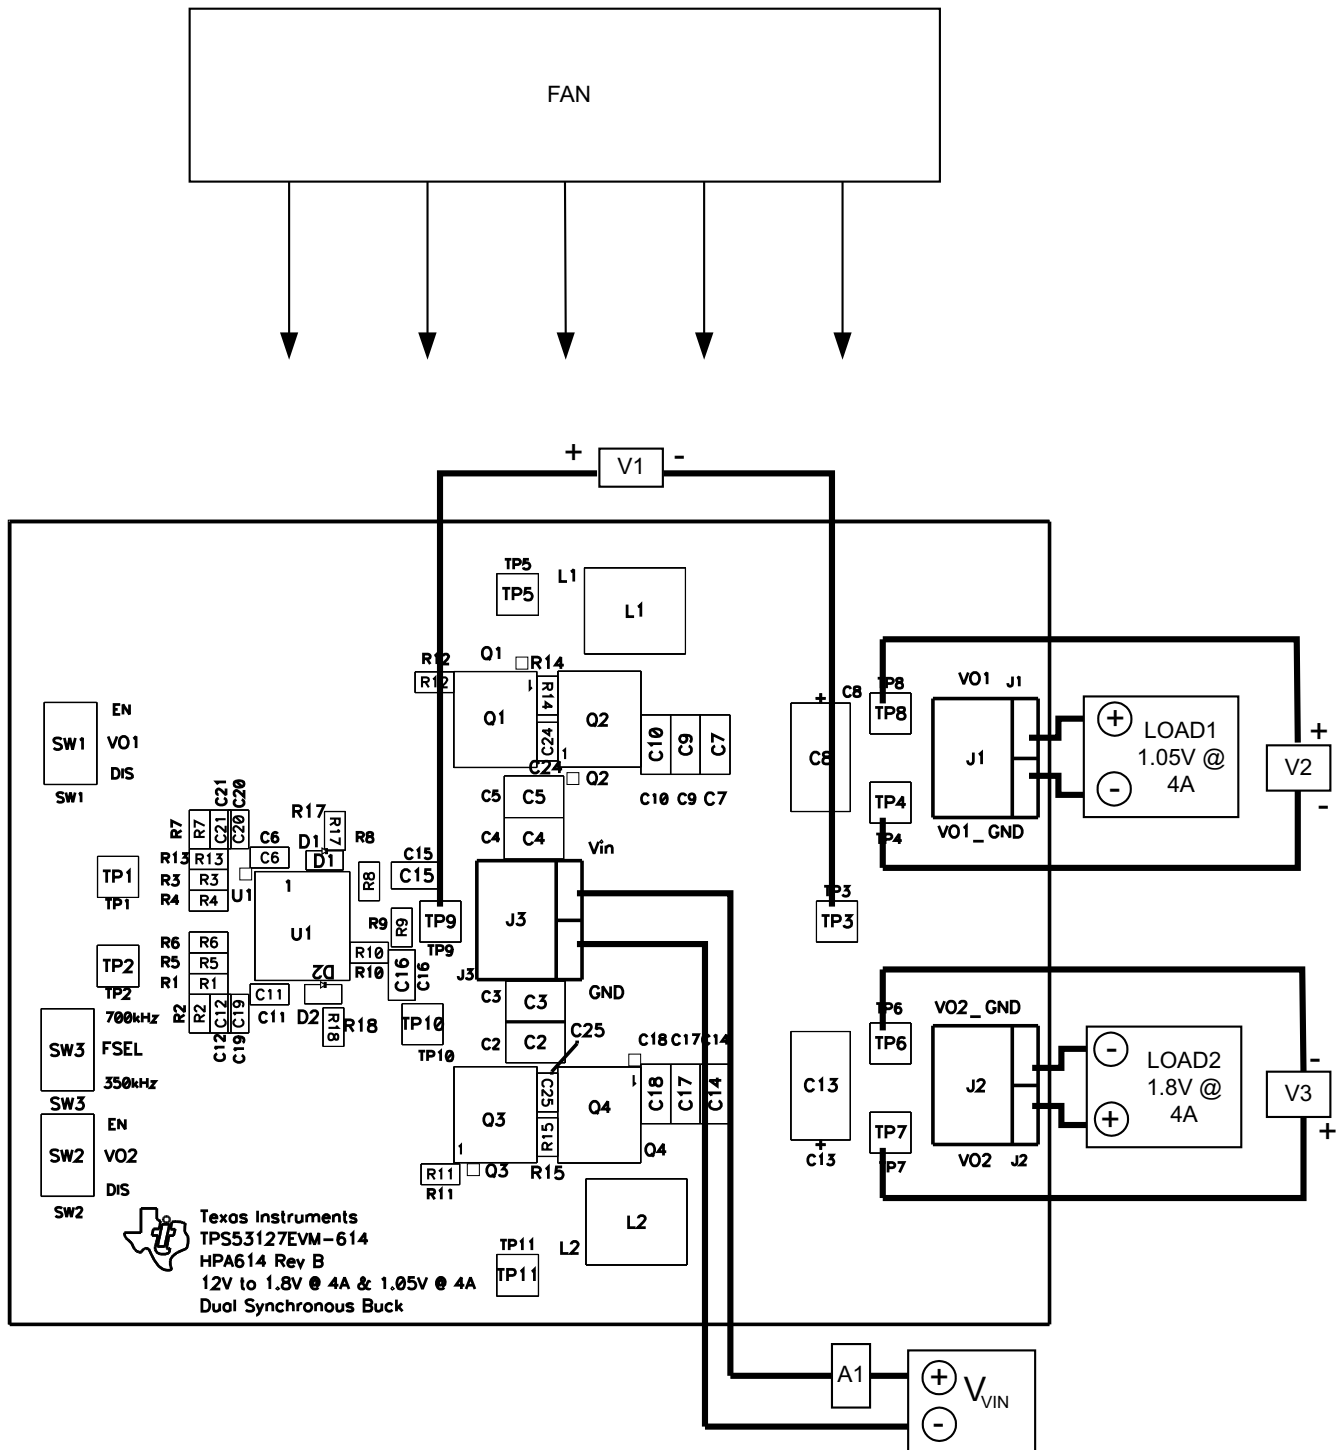

Figure 3. TPS53127EVM-614 Recommended Test Setup
Shown in Figure 3 is the basic test set up recommended to evaluate the TPS53127EVM-614. Note that although the return for J3 and J1 and JP2 are the same system ground, the connections should remain separate as shown in Figure 3.
2. Prior to connecting the DC input source, V_{IN}, it is advisable to limit the source current from V_{IN} to 3.0A maximum. Make sure V_{IN} is initially set to 0V and connected as shown in Figure 3.
4. Place a fan as shown in Figure 3 and turn on, making sure that air is flowing across the EVM.
Connect Oscilloscope Probe to CN1 or CN2 shown in Figure 3